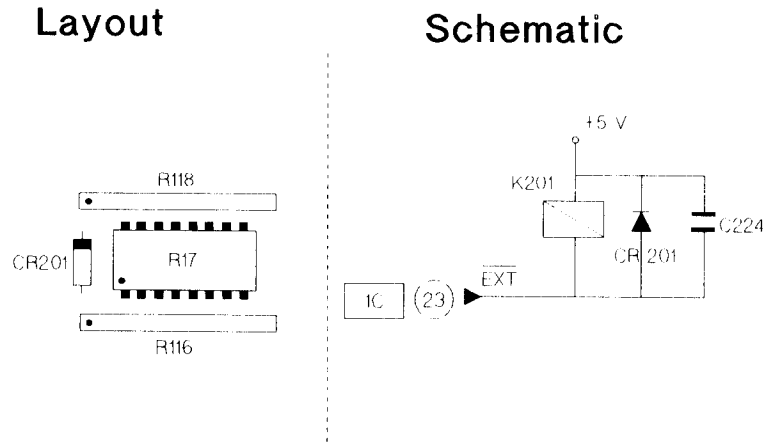

Figure B-6. CR201
- Figure B-6 shows CR201's location in the circuit and on the main board. Modify Figure 10.3-6 and Figure 10.4-8 accordingly.